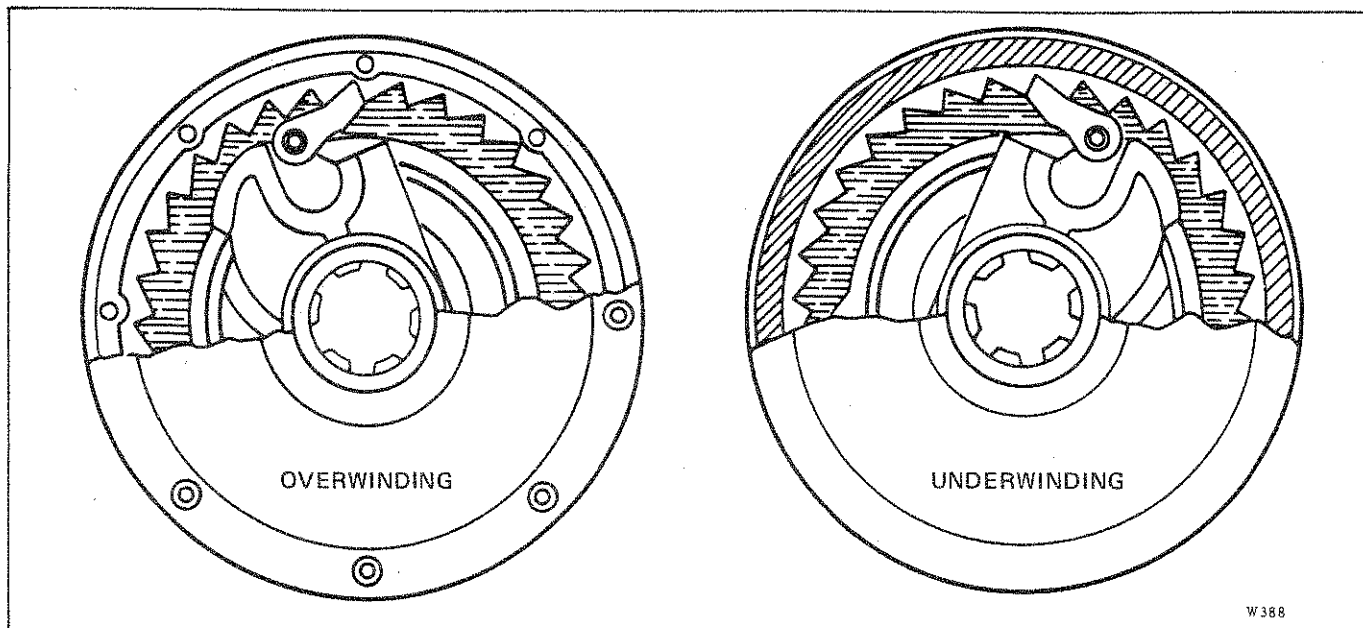

FIGURE 4-8. AUTOMATIC BRAKE (OPTIONAL) OVERWIND AND UNDERWIND ARRANGEMENT
b. Automatic Brake (Optional). (See Figure 4-8.) Interchange position of brake band pins **A** and **B** per step a above. Remove the automatic brake assembly and reinstall so that the word OVERWINDING is facing outward.
a. Brake Band. (See Figure 4-8.) Change the anchoring end of the brake band by changing the positions of pins **A** and **B**.